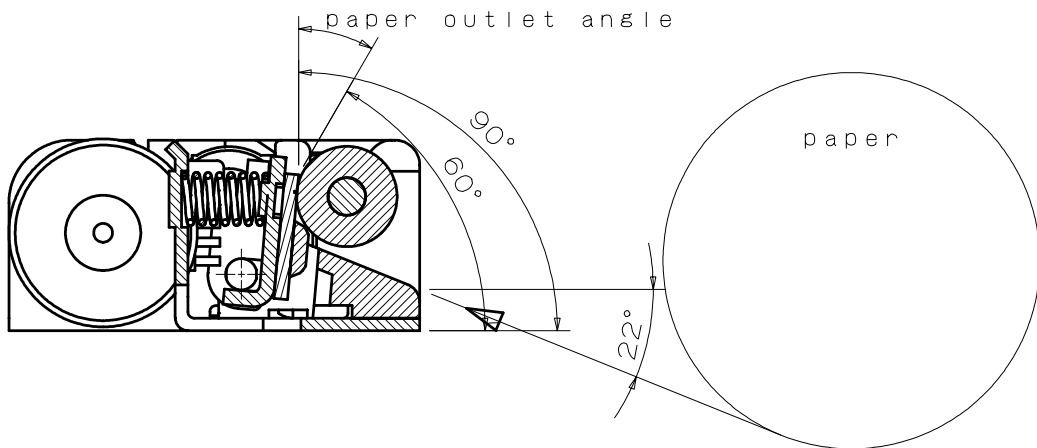

Figure 6-4 Recommended Layout Between The Printer and The Paper
- The printer and paper to be laid out as shown on the **Figure 6-4**.